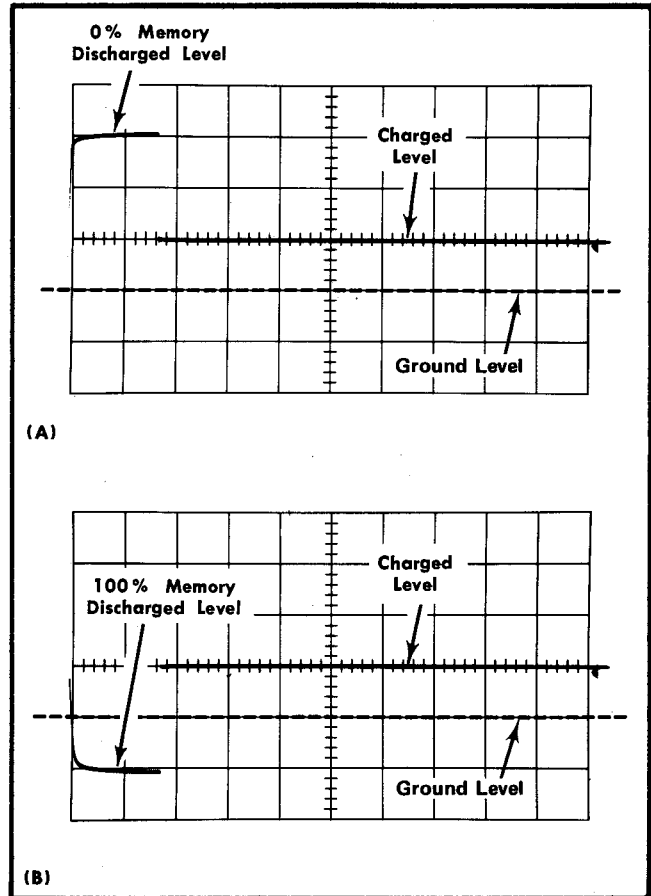

Fig. 7-4. Test oscilloscope display of (A) output of 0% Memory and (B) output of 100% memory.
- CHECK—Test oscilloscope display (see Fig. 7-4): Channel A 0% Memory discharged level 6.0 volts  $\pm 0.5$  volt above the ground reference set up in part g of this step.
- CHECK—Test oscilloscope display (see Fig. 7-4): 100% Memory discharged level 2.0 volts  $\pm 0.5$  volt below the ground reference level.